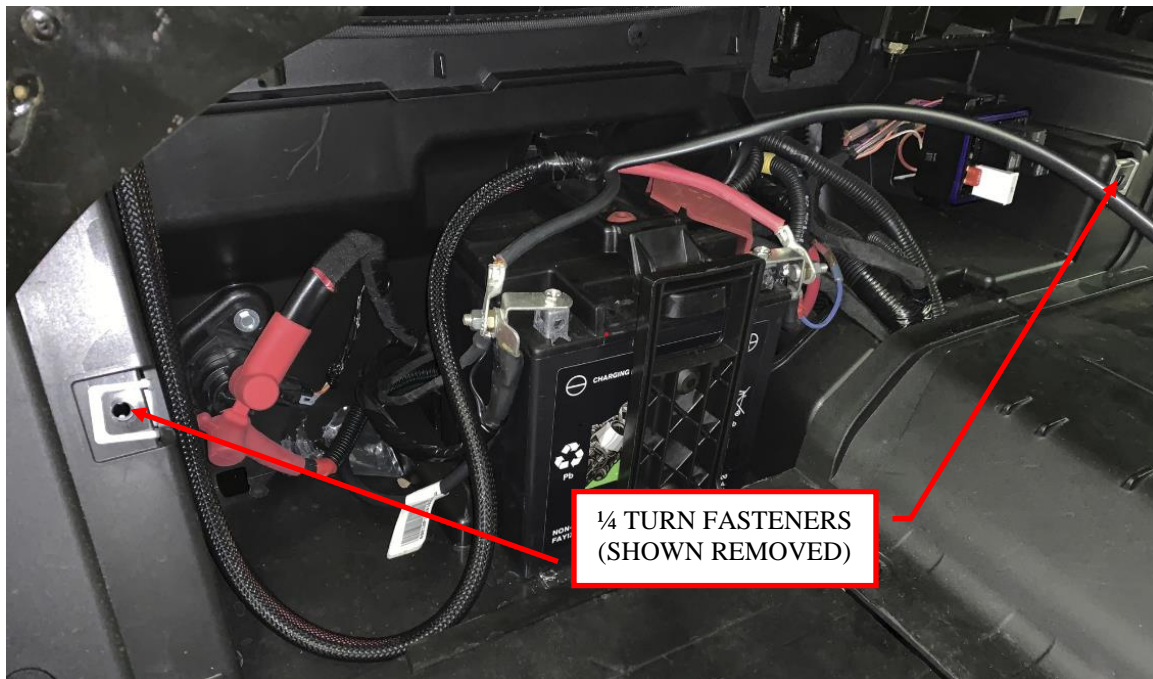

Figure 1: Fuse locations.
10. Connect the red wire with fuse holder to the positive battery post using the ring terminal and 6 mm nut. Similarly, connect the black wire to the negative battery terminal. See Figure 1.